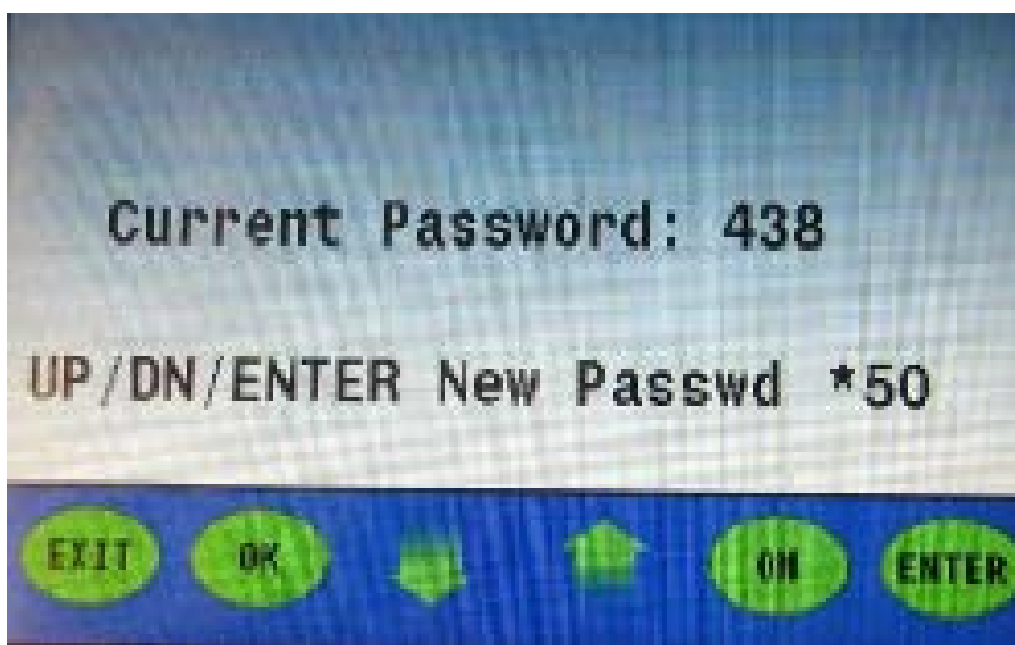

Figure 16
8. Press the **enter button**; a (*) is inputted into the field for the first digit; the second number will begin to blink (**figure 16**). Next, press the **up arrow** to assign the second number.